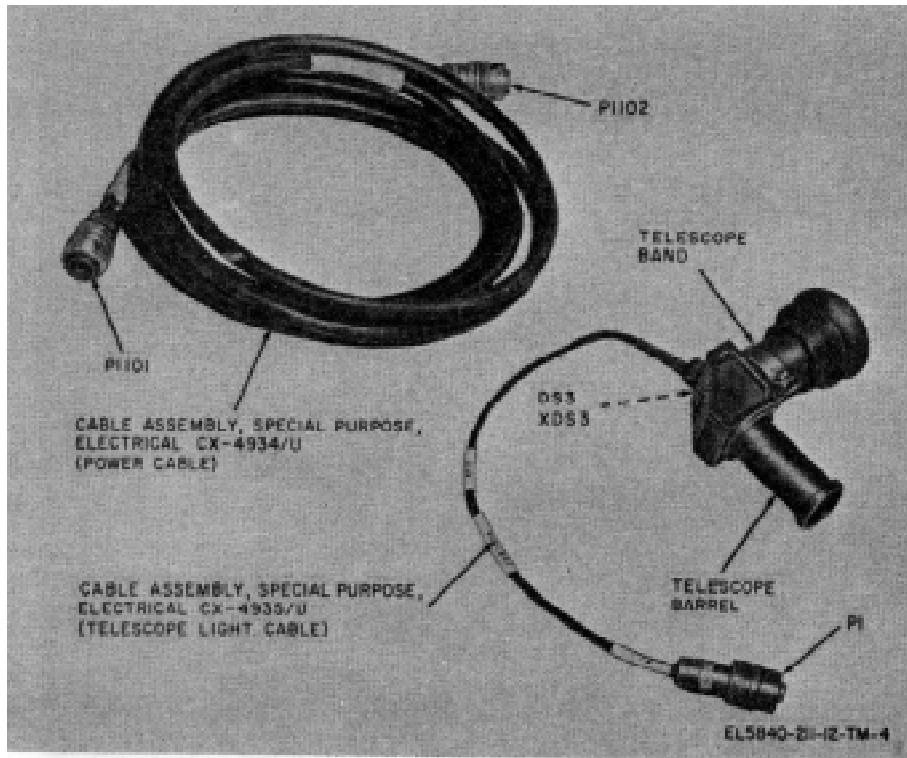

Figure 1-4. Cable Assembly, Special Purpose, Electrical CX-4934/U; Telescope, Azimuth M62A1C; and Cable Assembly, Special Purpose, Electrical CX-4935/U.
a. *Power Cable* (fig. 1-4). The power cable is 10 feet long and connects the battery and the 24 VDC BAT. ONLY receptacle on the receiver transmitter control panel.
b. *Telescope Light Cable*. The telescope light cable (fig. 1-4) connects between the telescope and a connector on the receiver-transmitter. This cable carries power to the telescope lamp.
g. Telescope (fig. 1-4). The telescope provides an optical line-of-sight view by which the receiver-transmitter may be aimed in azimuth and elevation. The telescope is a three-power, fixed focus type of instrument, with a field of view of 12 degrees, 10 minutes. The reticle pattern consists of a horizontal and vertical line. The intersection